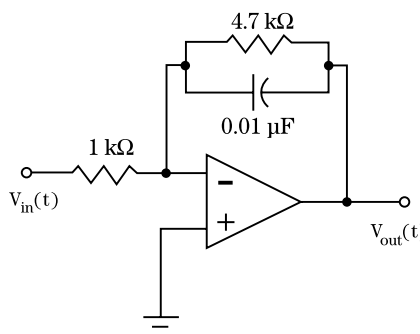

Figure 1
Write a voltage transfer function $T(s)$ for the circuit of Fig. 1. Use the transfer function for this circuit to construct a plot of the gain versus frequency. Use a CCA program to analyze the frequency response for the circuit of Fig. 1. Plot the gain response and tape the print-out into your lab journal.
- Build the circuit of Fig. 1 on a protoboard.